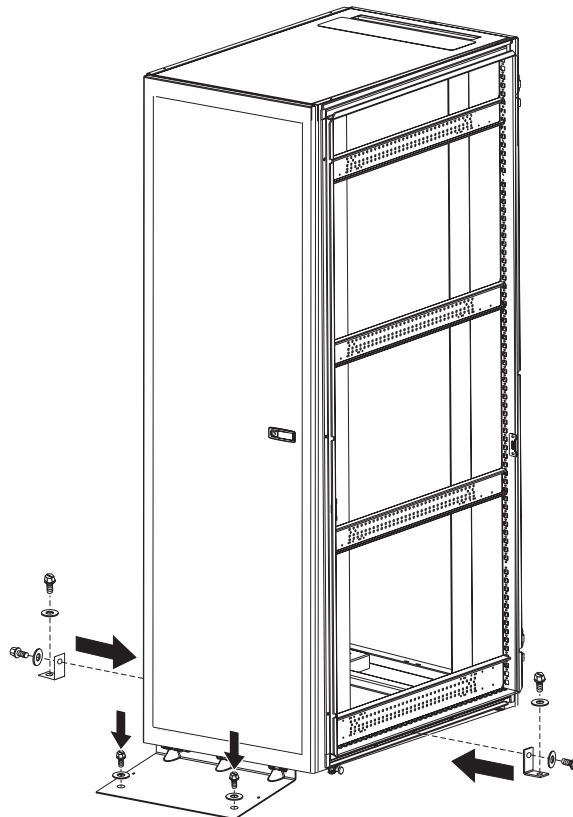

Figure 7. Installing the side stabilizer brackets and bolting the rack to the floor surface
- d. Attach the side stabilizer brackets to the center cage nut on each side of the rack with the hex bolts and washers (see Figure 7). The stabilizer brackets, bolts, and washers come in the hardware kit.
- 4. Bolt the rack to the floor surface through the holes in the front stabilizer and the side stabilizer brackets (see Figure 7) and reinstall the side panels.